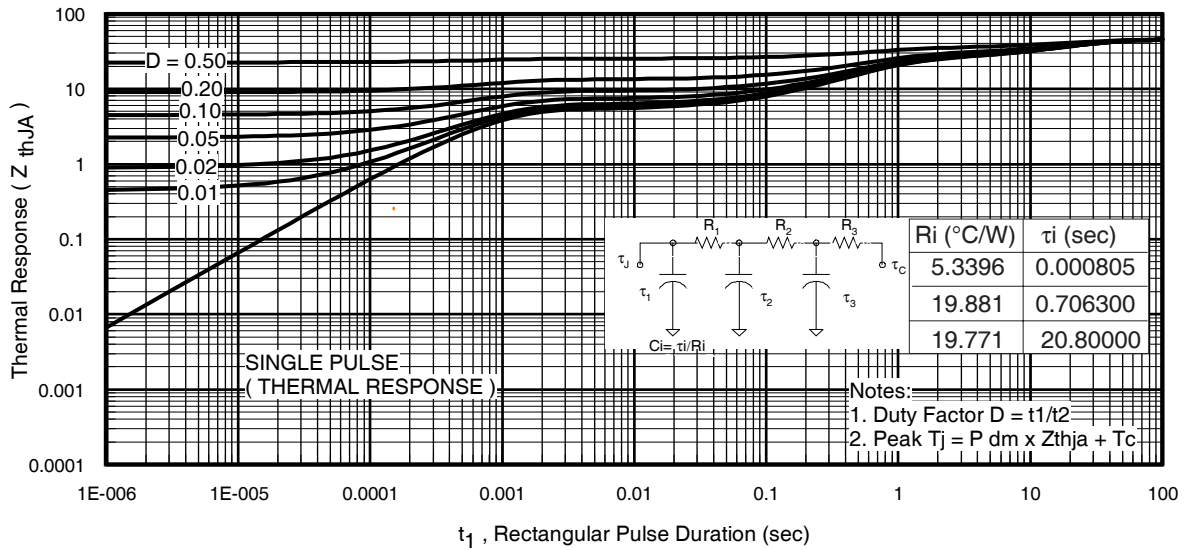

Fig 11. Maximum Effective Transient Thermal Impedance, Junction-to-Ambient
- ① Repetitive rating; pulse width limited by max. junction temperature. (See fig. 11).
- ② Limited by T_{Jmax} , starting $T_J = 25^\circ\text{C}$, $L = 4.8mH$
$Z_{thJC}(D, t_{av})$ = Transient thermal resistance, see figure 11)